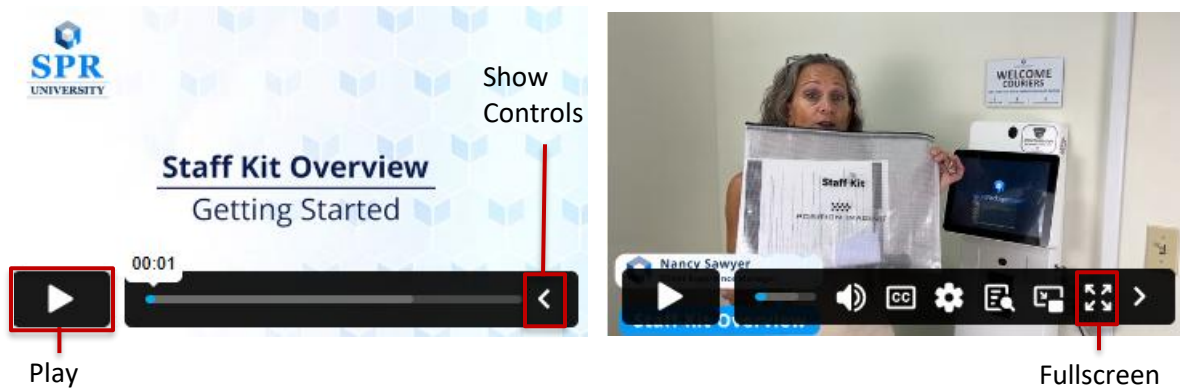

Figure 82: Video controls
4. To view a video: Under Training Videos, click the **Play** button on any video. See Figure 82.
5. To enlarge the video, click the **Show Controls** button (<) to display buttons. Click the **Fullscreen** button. See Figure 82.